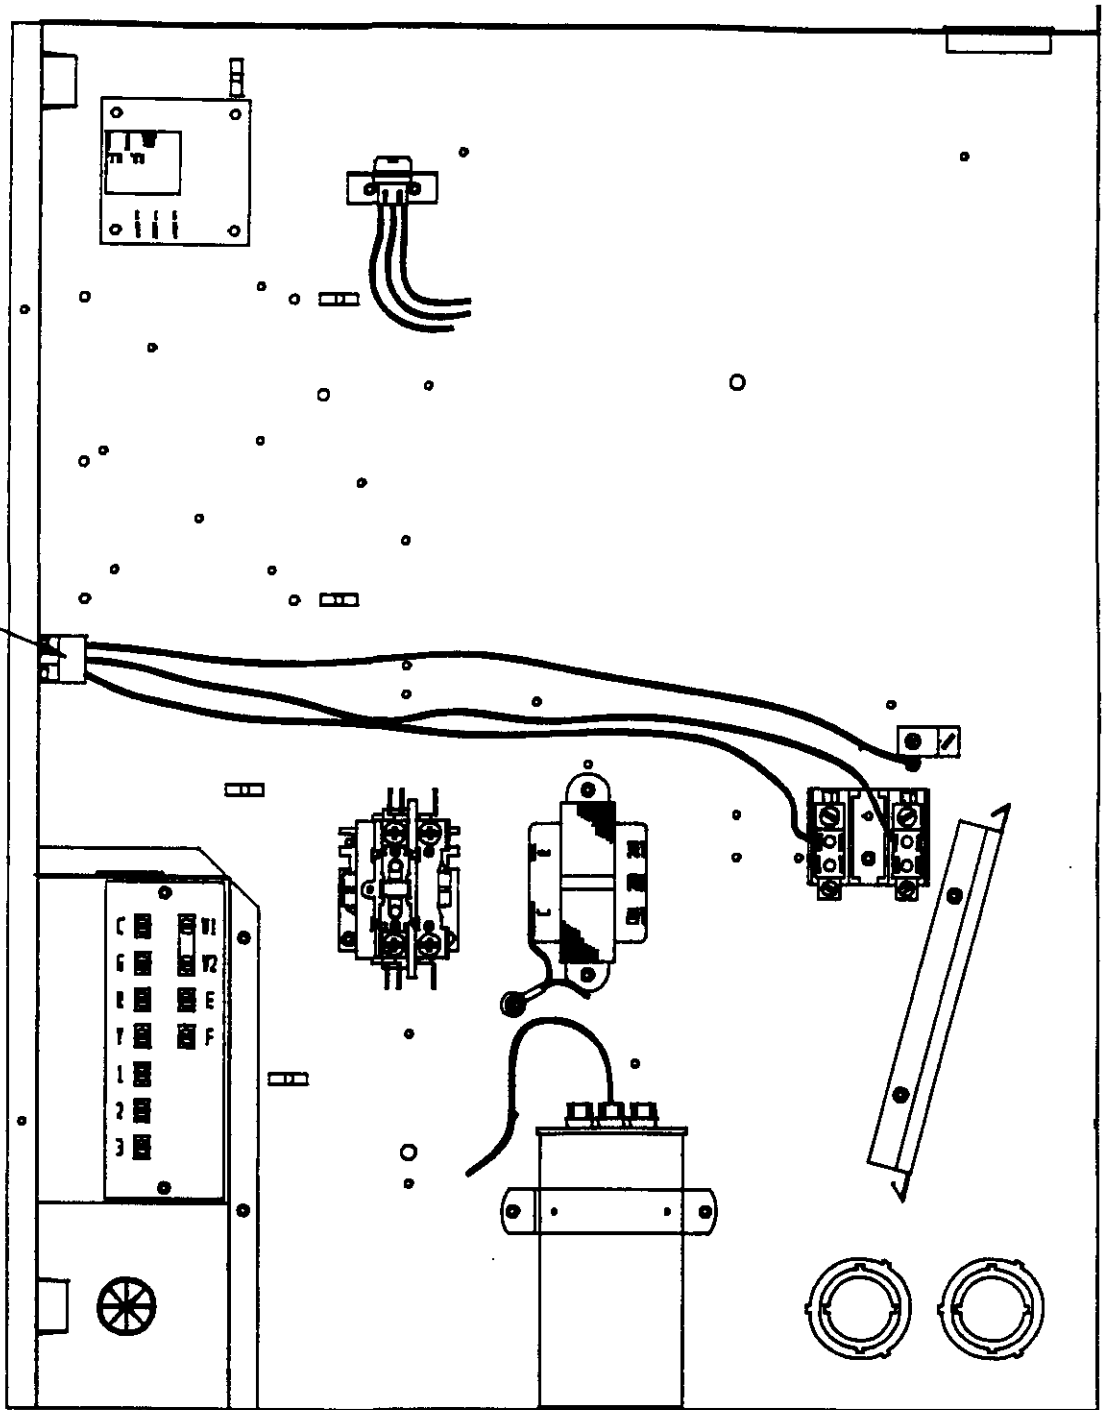

FIGURE 7
16. Replace the lower service access panel with the new panel provided. Attach air intake hood with screws provided. (See Figure 7) Be sure to insert the top flange of the air intake hood into and thru the slot in the service door and between the door and insulation to prevent bowing of the door.
2. Fresh air filter. The unit is equipped with a fresh air filter and mist eliminator located in the fresh air hood. (See Figure 7) This can be removed by removing the filter access screw from the side of the fresh air hood and removing the filter from the bottom of the assembly. This filter is constructed of an aluminum frame and mesh and can be cleaned by washing periodically. The frequency is determined by the amount of dust, pollen and other outdoor airborne particles in the area. A periodic visual inspection is recommended to insure it is clean and free of dust, debris, leaves, snow etc.